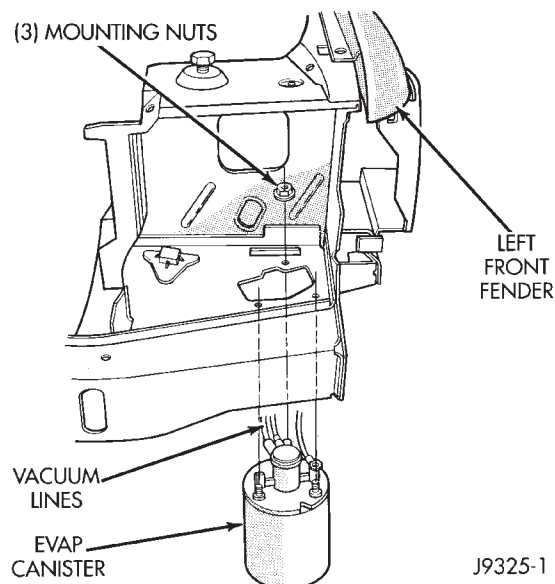

Fig. 12 EVAP Canister Location
- (1) Remove the grill. Refer to group 23, Body.
- (2) Remove the front bumper/fascia assembly. Refer to group 23, Body.
- (3) Disconnect vacuum lines at canister.
- (4) Remove the three canister mounting nuts (Fig. 12).
- (5) Lower the canister through bottom of vehicle.